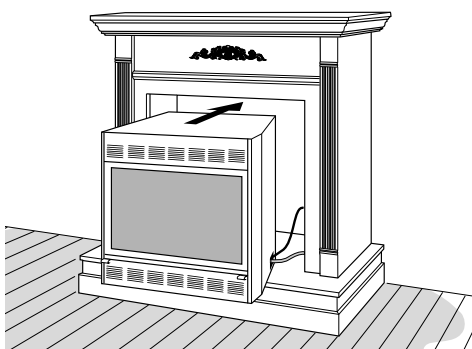

Figure 33 - Inserting Fireplace Into Cabinet Mantel
- Carefully insert fireplace into cabinet mantel (see Figure 33). Be careful not to scratch or damage hearth base, cabinet mantel, or any laminate trim on hearth base. Remove protective material from top of hearth base and from front of fireplace (if any). *Note:* You can secure fireplace to hearth or floor. Open lower louver. Locate screw holes in bottom of base. Tighten wood screws through these holes and into hearth or floor.